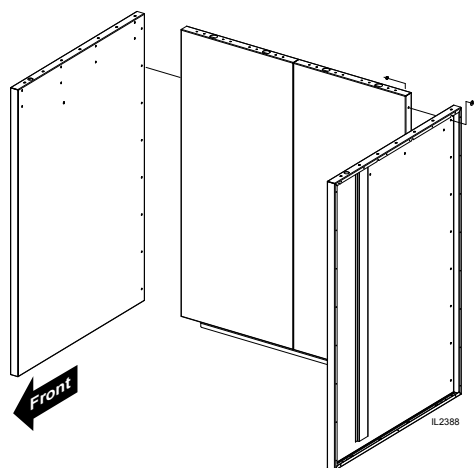

Figure 2
3. Align the left and right side of the base to the rear panel (Fig 2) and secure with bolt, washer and nut (8 places each side).